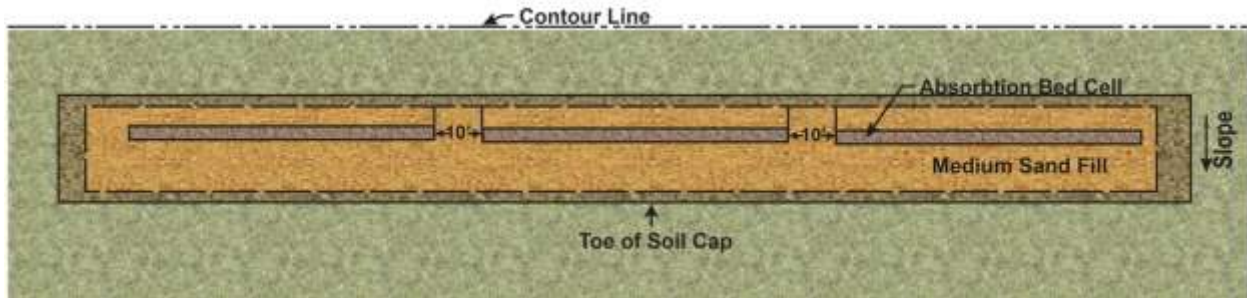

Figure 4-35. Multiple absorption bed cells installed in one sand mound.
2. If multiple absorption bed cells are used in a sand mound design, a separation distance of 10 feet should be maintained between each cell (Figure 4-35).